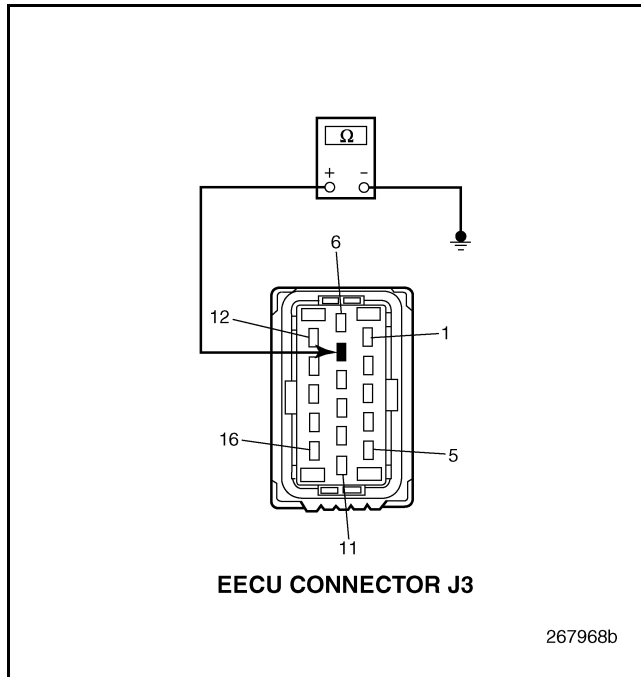

Figure 423
4. Check for continuity between EECU harness connector J3, pin 7 and a good ground (see Figure 423).